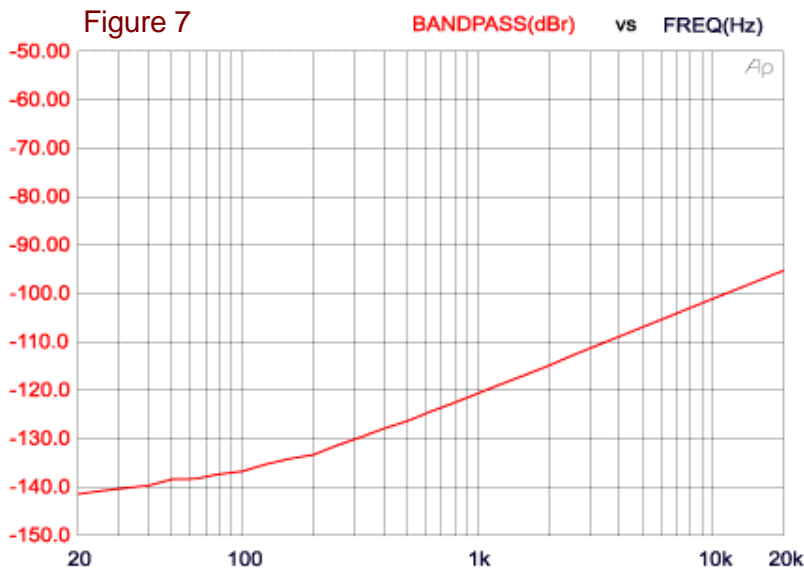

Figure 7
- OFF** attenuation: >110 dB @ 1KHz, see **Figure 7**.